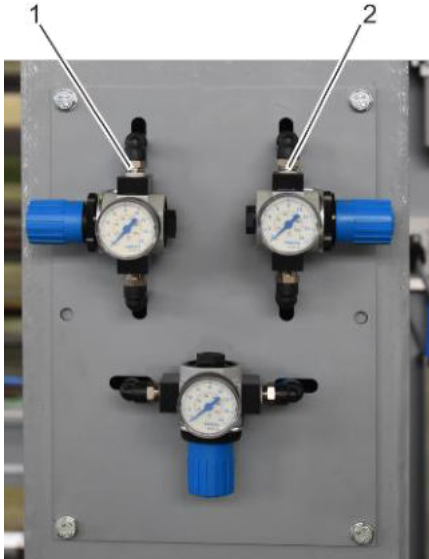

Fig. 29: Pressure setting of the spring element
1. Check the pressure for the welding roller cylinder on the left pressure reducer (Fig. 29/1).
3. Check the pressure for the contact roller cylinder on the pressure gauge of the right-hand pressure reducer (Fig. 29/2).